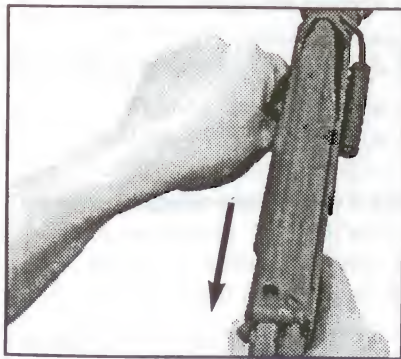

Fig. 10
The initial cocking of the weapon is done by hand, using the cocking handle on the left hand side of the body. The left hand is used for this operation (fig. 10).
2. Cock the mechanism to make sure there is no cartridge left in the chamber; let the mechanism go forward and put the rifle at safe, the hammer remaining in the cocked position (fig. 10).